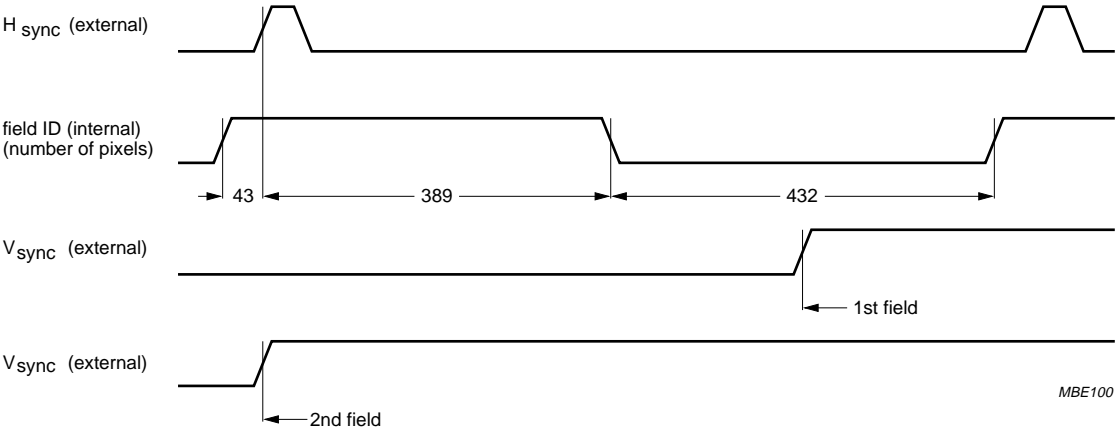

Fig.7 Vertical synchronization timing and field identification.
The MVFILT and SVFILT bits can set the type of vertical filtering. The MUVPOL and SUVPOL bits invert the UV polarity of the incoming signals. The MVSPOL and SVSPOL bits determine the active edge of the V_{sync} (see Fig.7). The MHSYNC and SHSYNC bits determine the timing of the H_{sync} pulse (burstkey or H_{sync} timing). The MFPOL and SFPOL bits can invert the field identification (ID) of the incoming fields (see Fig.7).
The DVSPOL bit determines the active edge of the V_{sync} (see Fig.7). The DHSYNC bit determines the timing of the H_{sync} pulse (burstkey or H_{sync}). The DFPOL bit can invert the field ID of the incoming fields (see Fig.7).